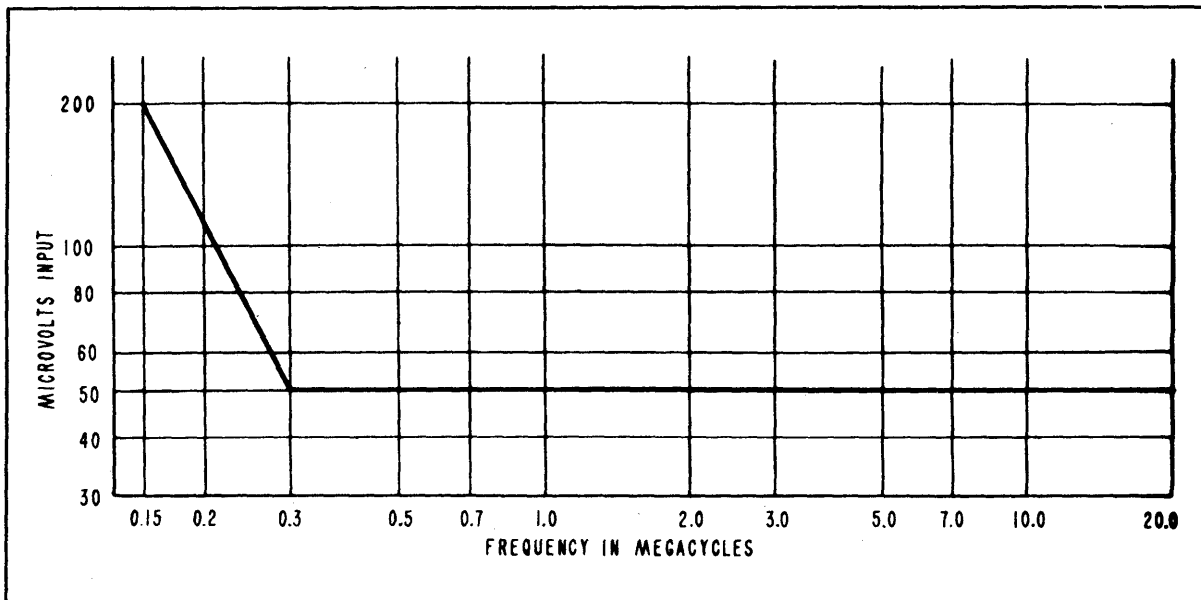

Figure 11-1. Direction Finder Group AN/APA-69 and Direction Finder Group AN/APA-69A, Conducted Noise Interference Limits
instrument must be recalibrated at each frequency examined. Refer to paragraph 11-8, steps f. through h.) Conducted noise voltage limits are shown in figure 11-1. If no peaks are discovered in the initial sweep, note the noise voltages at the test frequencies of 0.2, 10 and 20 megacycles.
c. Using a UG-274/U T-connector to make contact to the noise meter leads repeat the procedure from step a. to read noise voltages at jacks J402, J403 and J404. Noise voltage limit values are shown in figure 11-1.